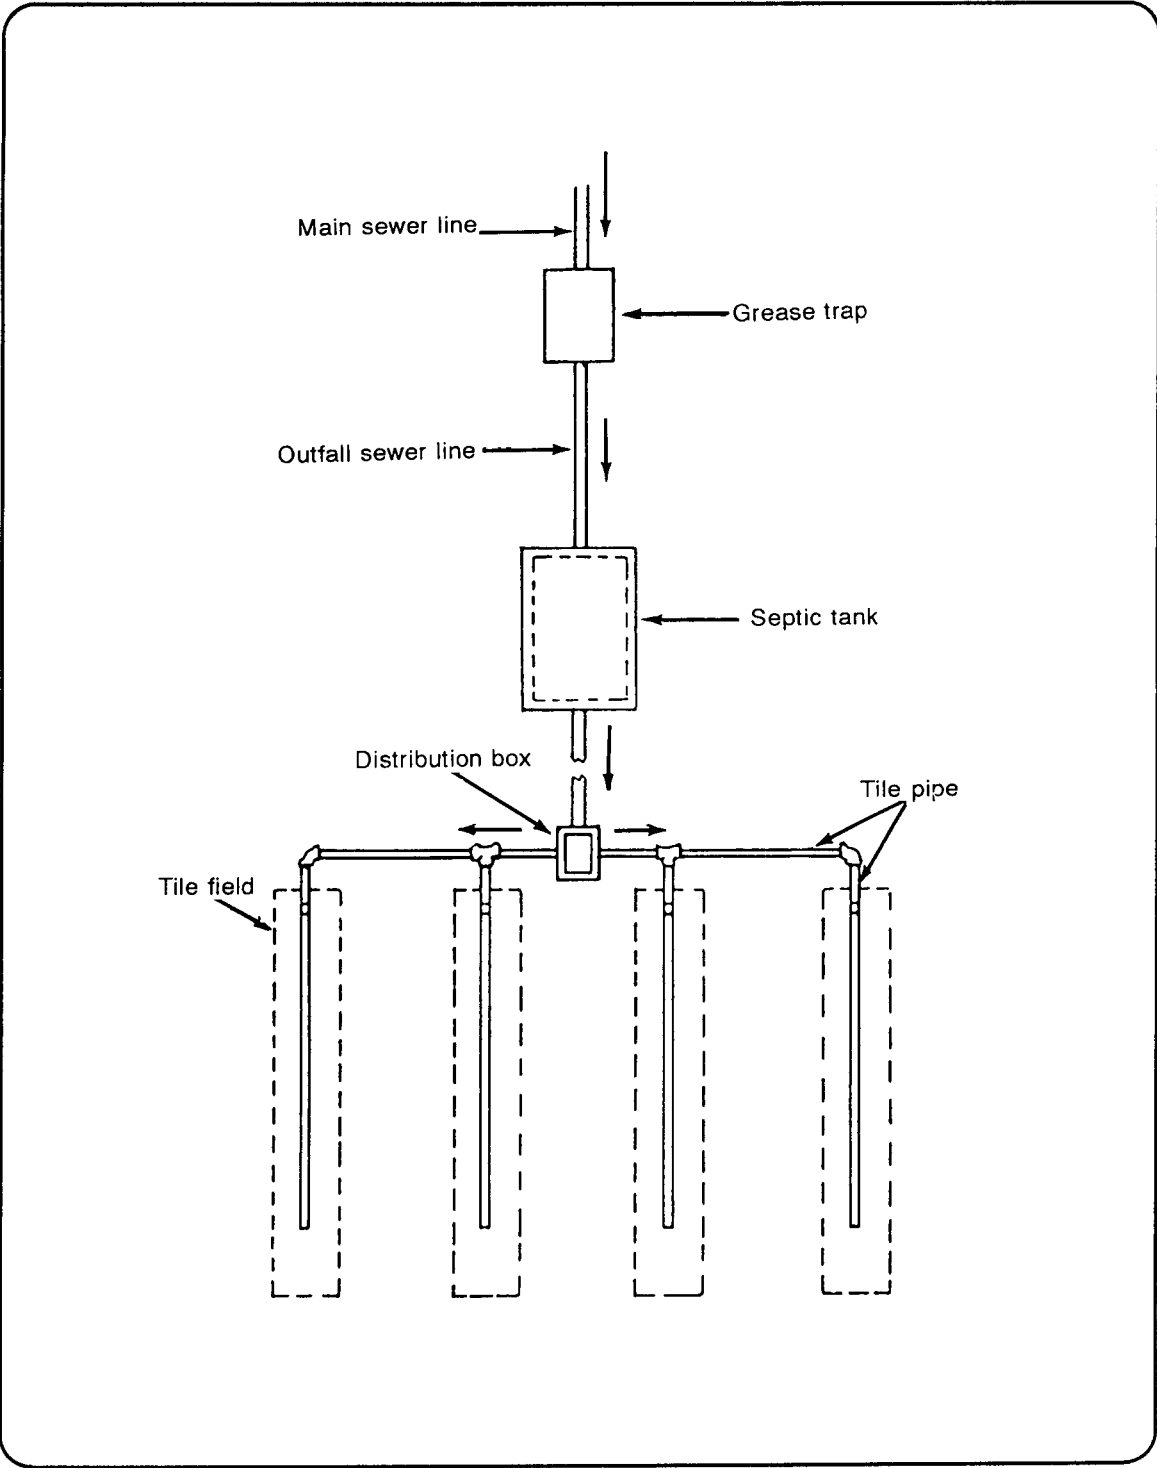

Figure 1-9. Small sewerage system plan
Figure 1-9 (page 1-21) shows a small sewerage system, which includes the septic tank. The distribution box, which permits equal flow to all lines of the disposal field, can be either wood, concrete, or brick. The diversion gate is usually wood with a handle slot, so it can be moved to change the sewage flow.
The system shown in Figure 1-9 (page 1-21) uses both a septic tank and a subsurface sand filter to dispose of sewage. A plumber needs both a plan and a profile (elevation) view of the system.
c. *Sand-Filter Fields.* Piping of surface irrigation and subsurface sand-filter disposal systems is installed using plans and profiles. The plans and profiles are based on the area topography and a soil percolation test. The small sewerage system shown in Figure 1-9 (page 1-21) shows a sand-filter field. (Refer to FM 5-163 for a complete description of sand-filter fields.)